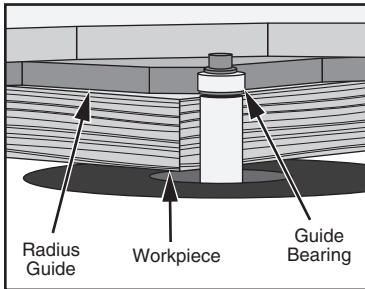

Figure 4. Guide bearing on router bit aligned with radius guide.
5. Install flush trim bit in your router and adjust bit depth so guide bearing is aligned with radius guide on workpiece (see **Figure 4**).